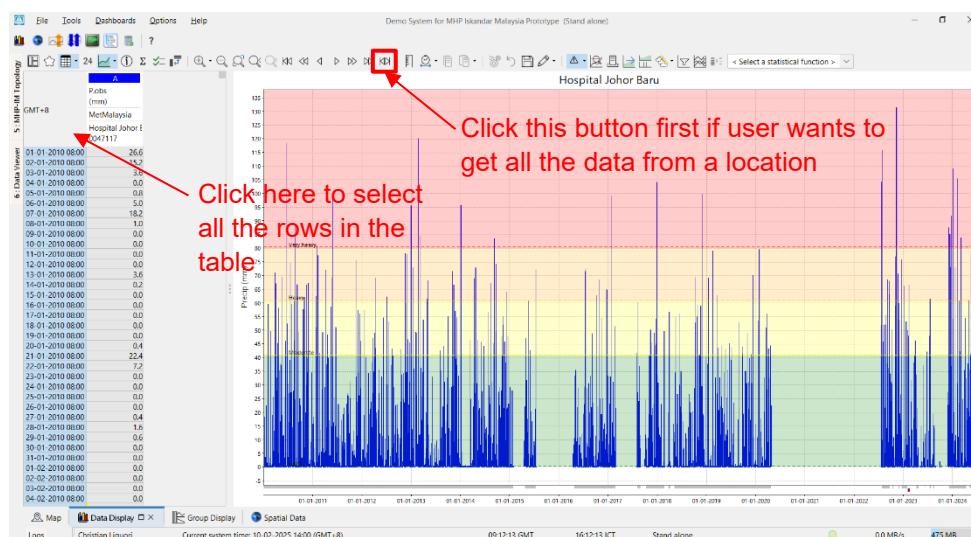
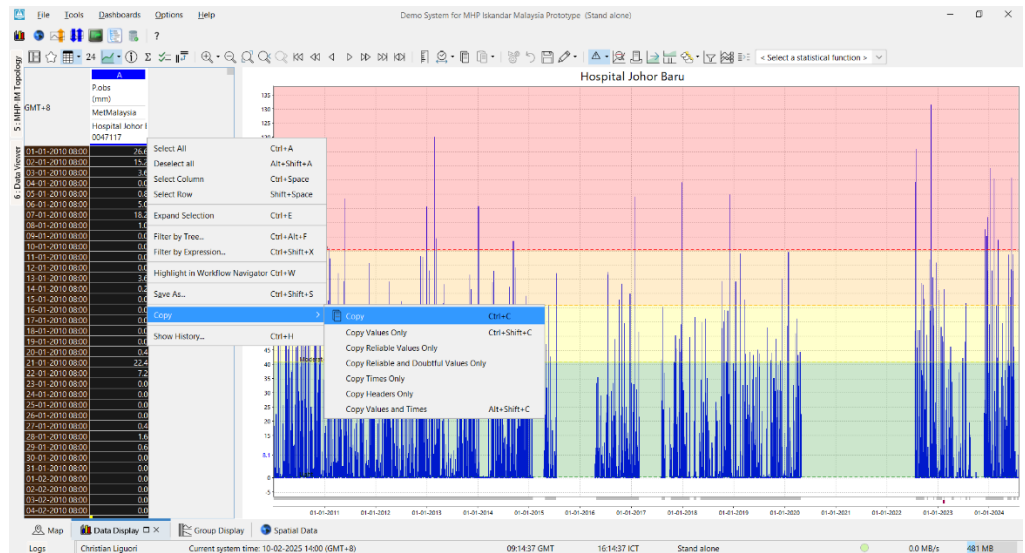

Figure 5.1 Step 1 & 2 for Getting All Tabular Data from a Specific Location
Figure 5.2 Copying Tabular Data from a Specific Location
**Step 2:** Left click on cell 'GMT+8' to select all the rows in the table. (Figure 5.1 Figure 5.2)
**Step 3:** Right click on any selected rows and choose Copy > Copy or press Ctrl+C (Figure 5.2)